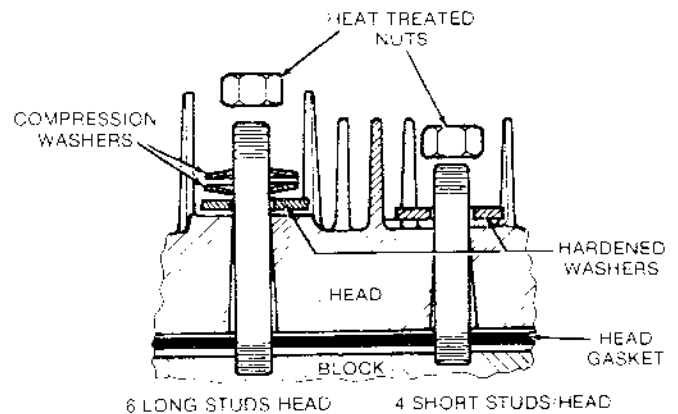

FIGURE 45. CYLINDER HEAD WITH COMPRESSION WASHERS
5. Some engines have two compression washers and one hardened washer on the long cylinder head studs (top 6 studs on each side) as shown in Figure 45. When these washers are used, they must be installed as shown. When properly installed, only the outside edges of the compression washers will be in contact with each other. Install a flat washer and nut on each of the four bottom studs.